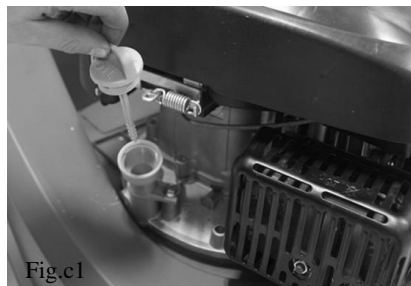

Fig.c1
- 1) Remove the oil filler dipstick and fill into engine oil (Fig.c1);